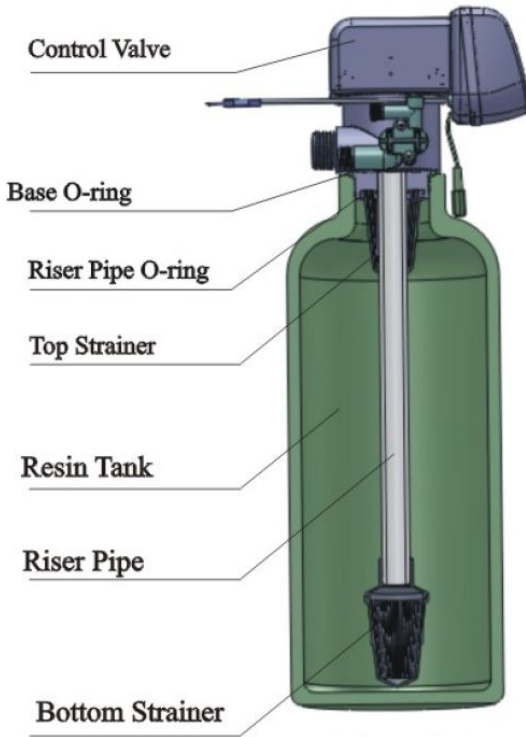

Figure1-1
① Install control valve
- a. As the Figure 1-1 shows, select the riser pipe with 26.7mm OD, glue the riser pipe to the bottom strainer and put it into the mineral tank, cut off the exceeding tube out of tank top opening. Plug the riser tube in case of mineral entering.